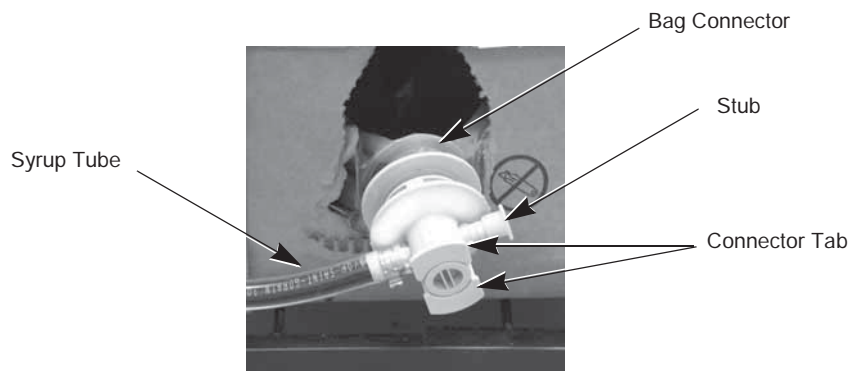

Figure 8.
Refer to Table 7 and Figure 8 when replacing a Type 2 BIB container.
6.	Re-install the QCD connector onto the new BIB connector by slipping it onto the connector and pushing the syrup hose and stub down toward the box. ⚠ IMPORTANT: Button should be flush, as shown in Figure 8.